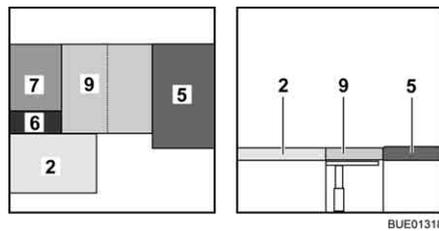

Fig. 138 After conversion
- Unfold the additional cushion (Fig. 138,9) and lay it on the table.